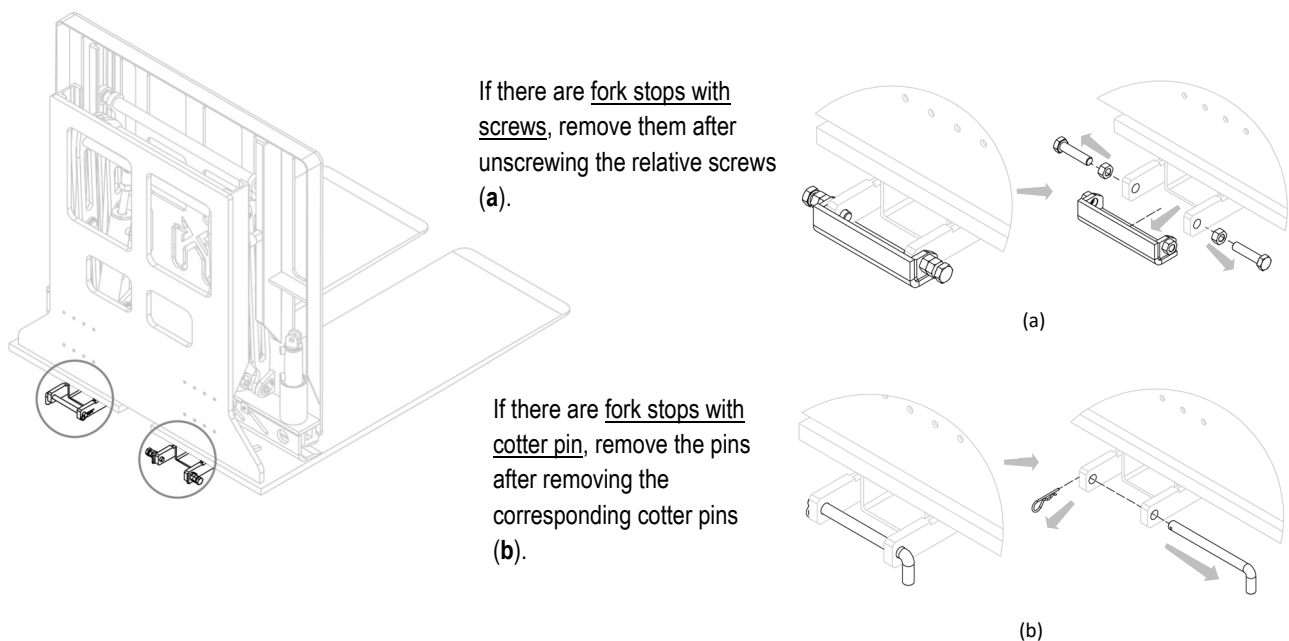

Figure 5
4. Remove the fork stops from the equipment (see *Figure 5*).
2. Remove the fork stops (see *Figure 5* on page 14).